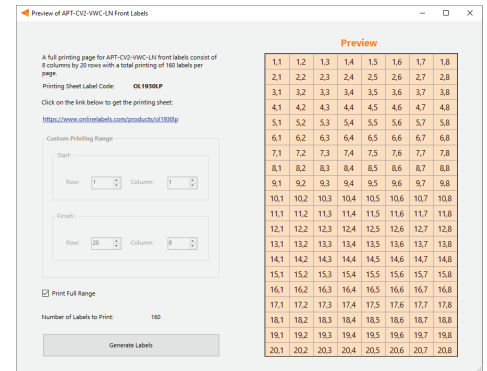

Figure 13: Label generation print preview window
- 5 Input the starting and finishing rows and columns that will fit on the back or front labels. The selected range is highlighted in blue (Figure 13).